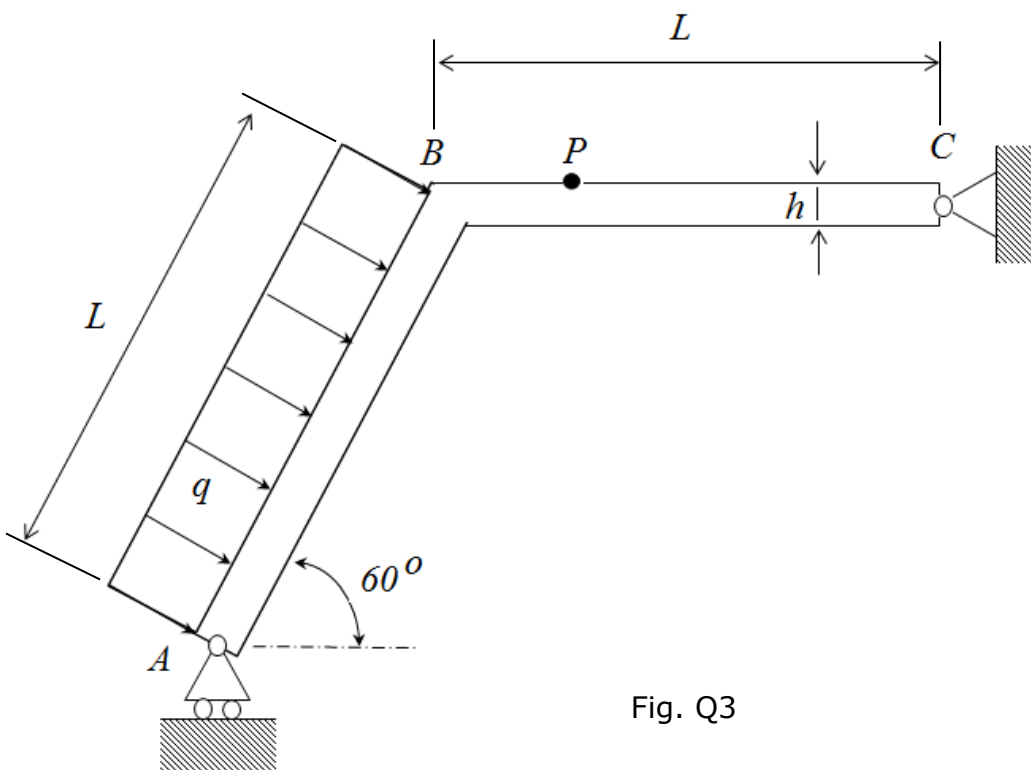

Fig. Q3
3. A structure consisting of two legs, as shown in Figure Q3, is subjected to a uniformly distributed load, q N/m, acting transversely on the leg AB. Each leg has the length L and a rectangular cross-section with width w and depth h . Determine: